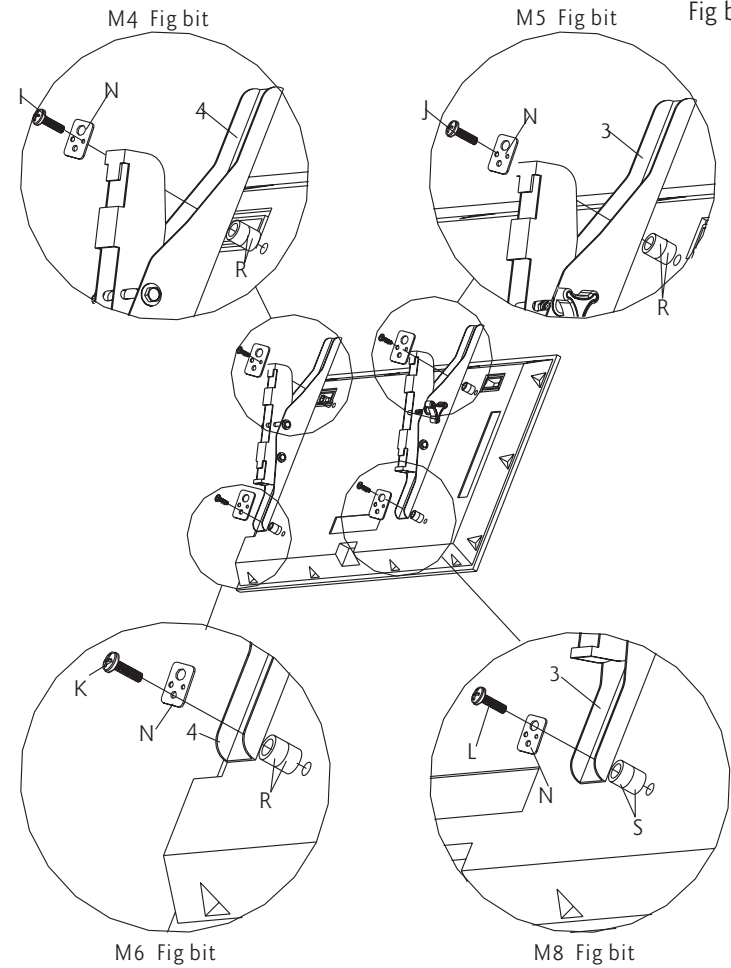

Fig 1c
3. For display with protruding HDTV tune or deeply curved backs(Fig b), two 9/16" spacers(R) and 1/2" spacers(S) should be used. Stack two spacers and then install them between display and the bracket. As shown in Fig 1c.